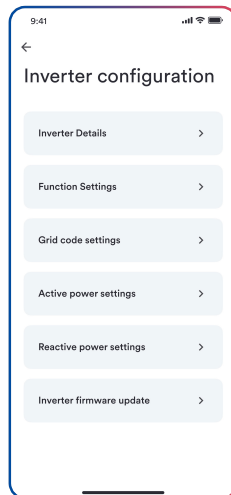

Figure 8.1. Inverter list
2. As shown in Figure 8.1, the inverter configuration should be set carefully under the guidance of professionals.